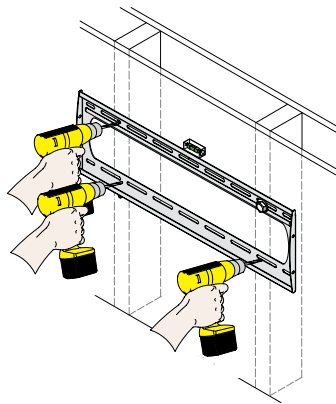

Figure 10. Drilling the Remaining Pilot Holes
12. Drill a "pilot hole" in the center of each of the marks with a power drill and a ¼" drill bit (Figure 10).